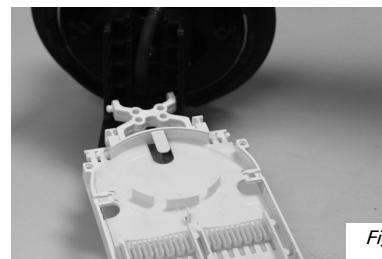

Fig. 5
1. With the closure right side up, insert the FOSC 400 A or B closure tray in the lowest slot of the tray bracket. Insert one tray pin in the tray bracket first, then pivot the tray to pop the second pin into place. (Figure 5)